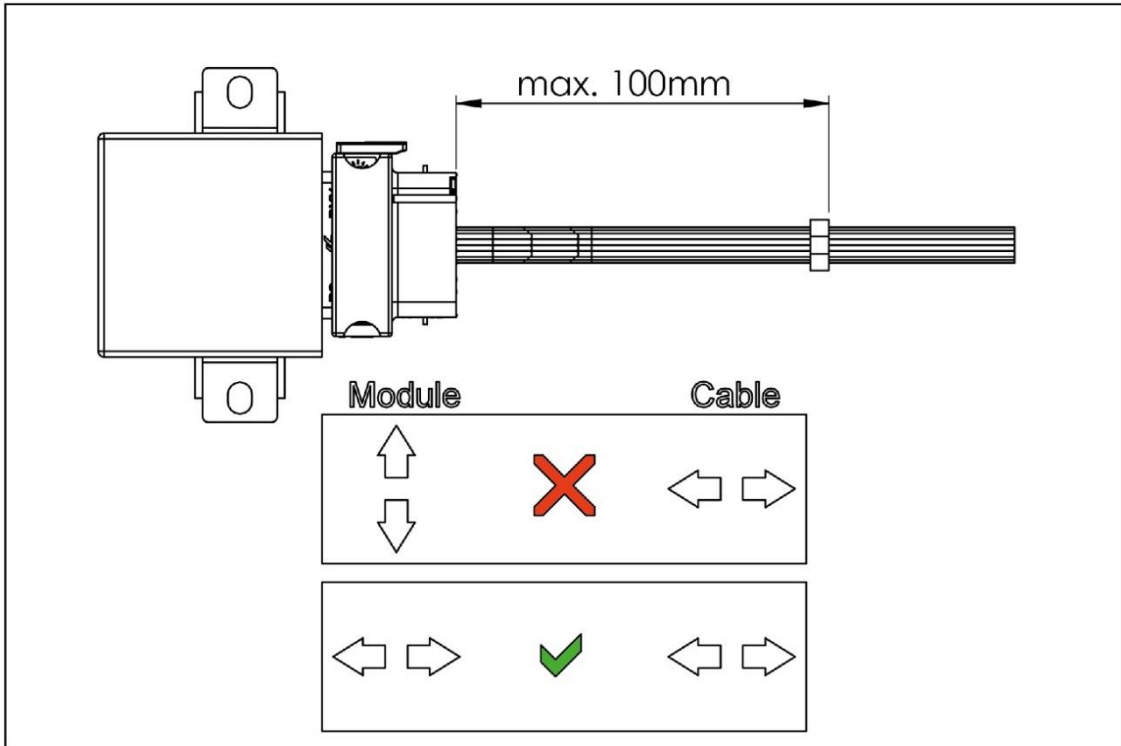
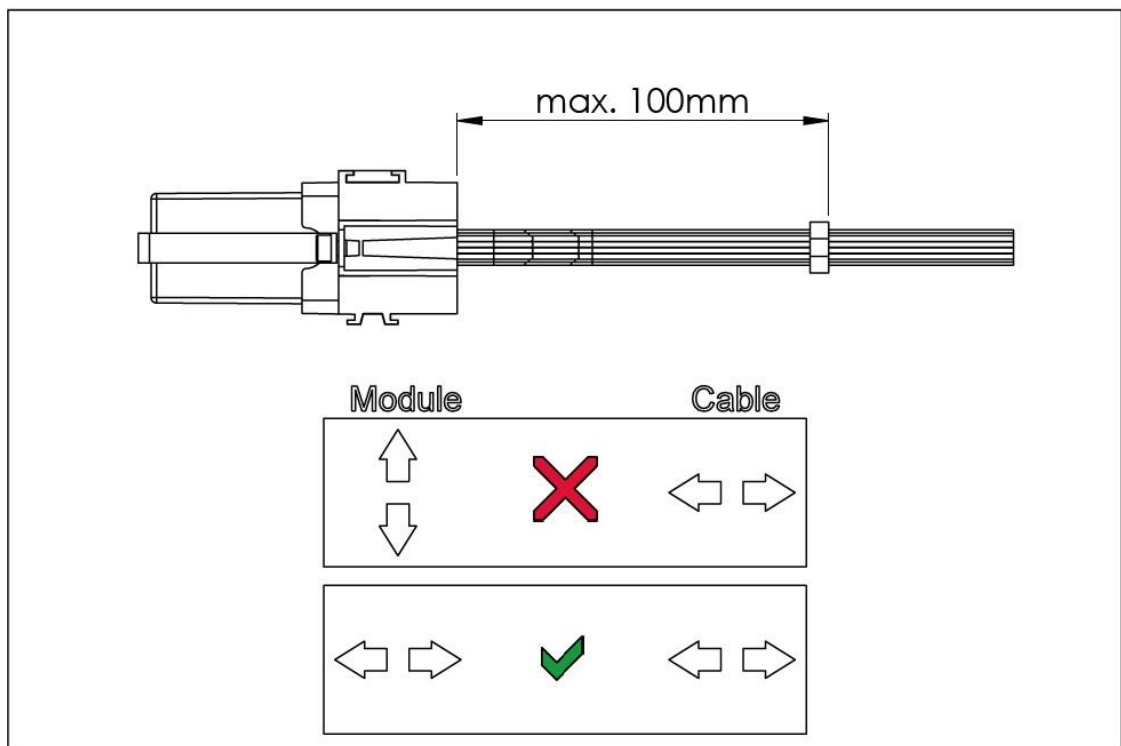

Figure 1: Strain relief of the cable harness (example). 100 mm (max.) are mandatory, controller may vary.
Figure 2: Strain relief of the cable harness (example). 100 mm (max.) are mandatory, controller may vary.
- The cable routing must be selected in such a way that the cable harness only moves identically to the direction of movement of the controller/plug. (Attachment controller/cable/strain relief on the same underground). A strain relief is necessary (see Figure 1 and Figure 2).